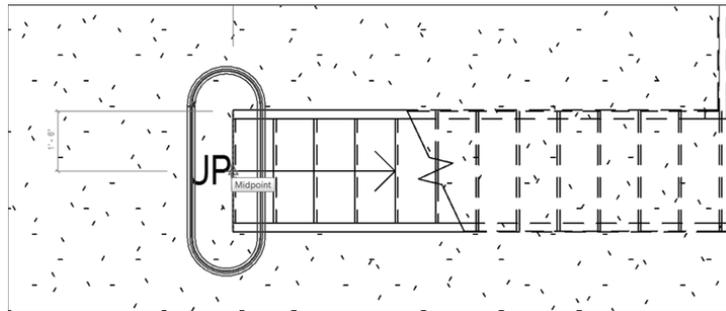

FIGURE 10.67: Placing the landing
5. Place the landing under the last tread at the point shown in Figure 10.67.